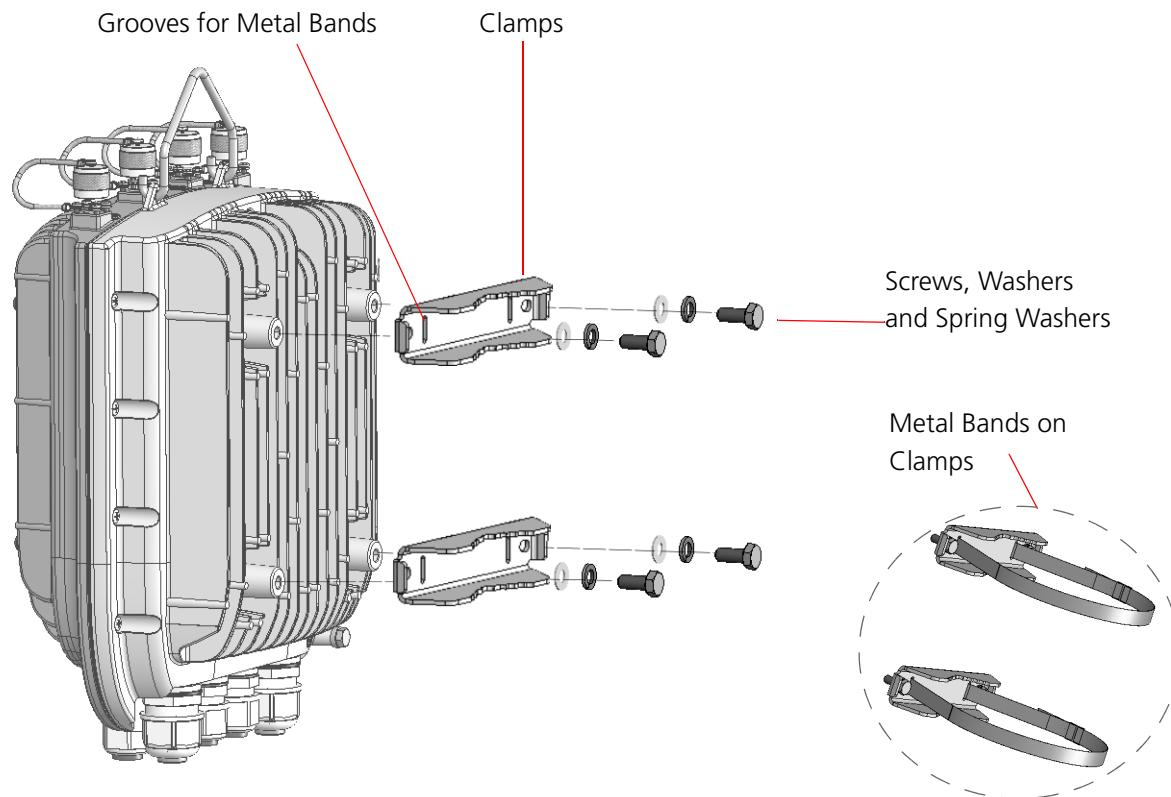
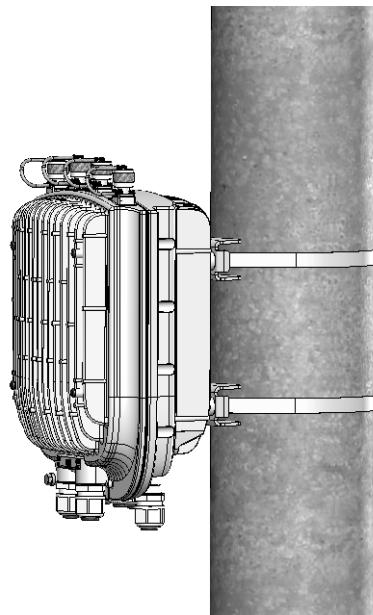

Figure 2-3: Attaching the Clamps
Figure 2-4: BTS Installed on Poles Using Metal Bands
Refer to Figure 2-3 and Figure 2-4.
- 2** Attach the clamps to the BTS and use the screws, washers and spring washers to fasten the clamps to the BTS (Figure 2-3)